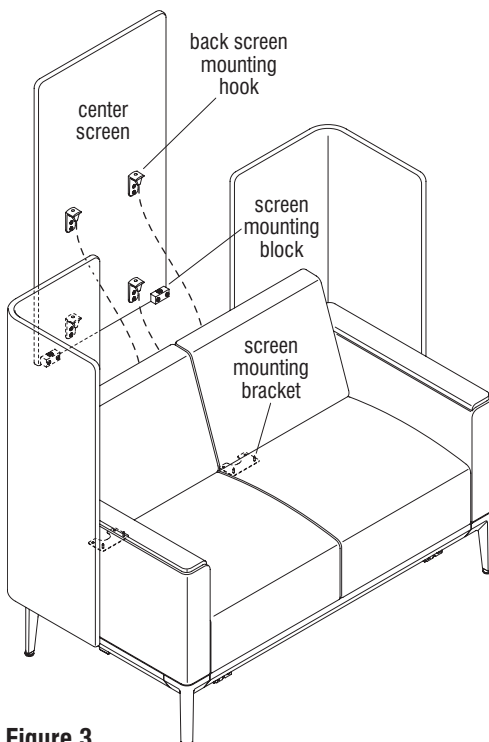

Figure 3
1. Take the center screen and align the four back screen mounting hooks with the four back screen mounting receiver notches and set into place. Apply a slight downward pressure on top of the screen to fully seat the hooks into the receivers. The screen mounting blocks will rest on top of the screen mounting brackets (Figure 3 & Details E & G).